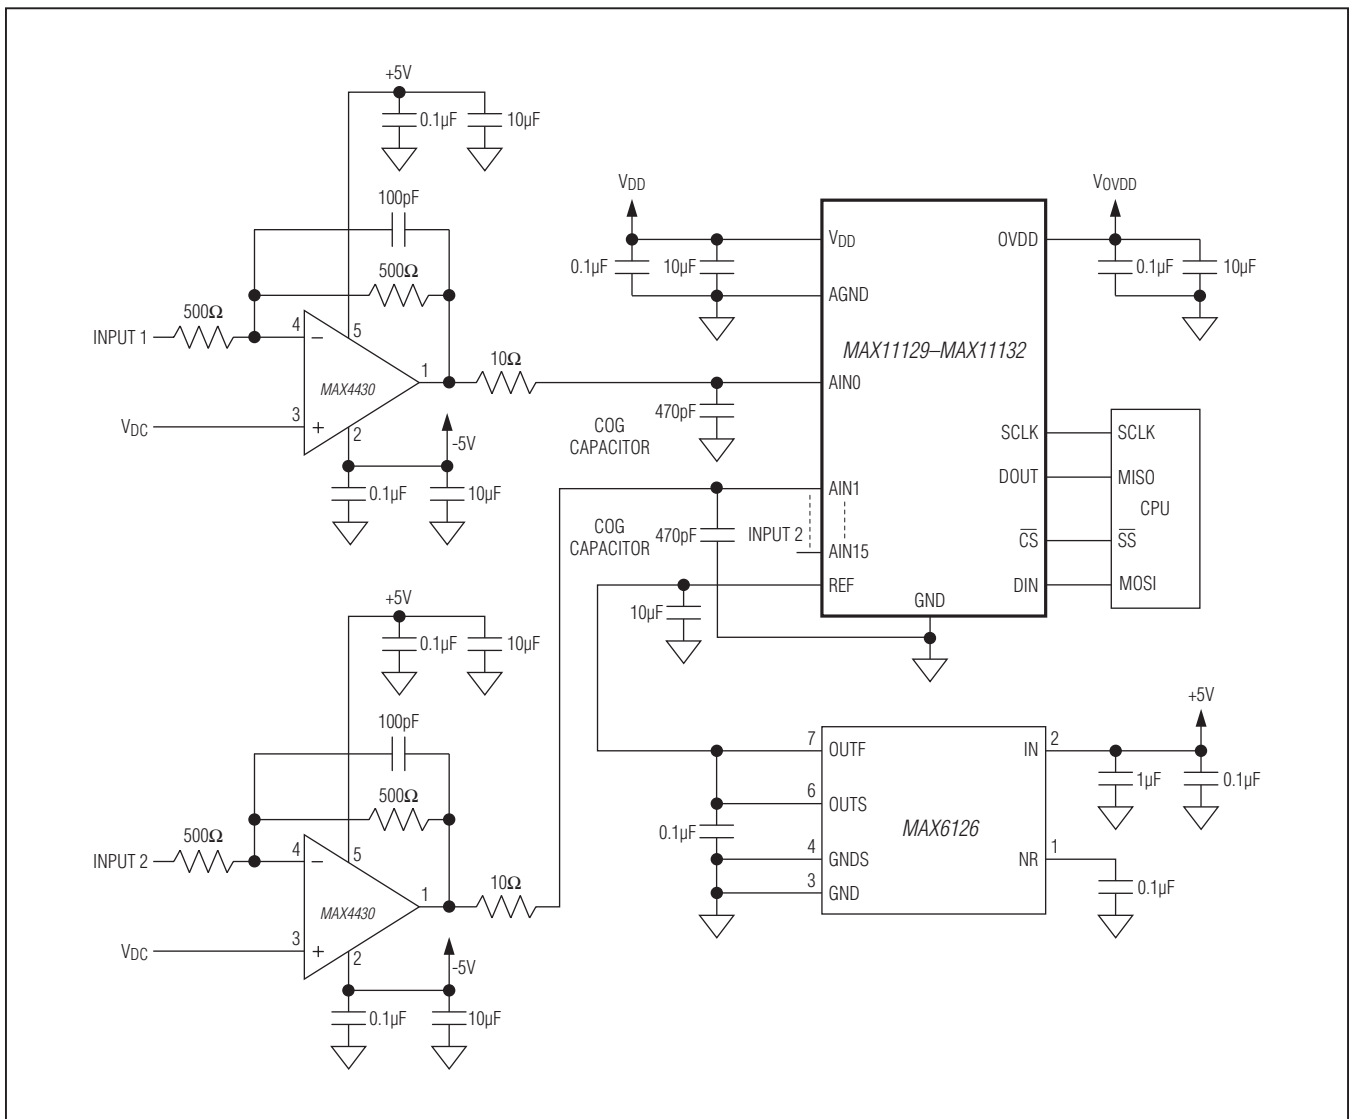

Figure 13. Typical Application Circuit
It is important to match the settling time of the input amplifier to the acquisition time of the ADC. The conversion results are accurate when the ADC samples the input signal for an interval longer than the input signal's worst-case settling time. By definition, settling time is the interval between the application of an input voltage step and the point at which the output signal reaches and stays within a given error band centered on the resulting steady-state amplifier output level. The ADC input sampling capacitor charges during the sampling cycle, referred to as the acquisition period. During this acquisition period, the settling time is affected by the input resistance and the input sampling capacitance. This error can be estimated by looking at the settling of an RC time constant using the input capacitance and the source impedance over the acquisition time period. Figure 13 shows a typical application circuit. The MAX4430, offering a settling time of 37ns at 16-bit resolution, is an excellent choice for this application. See the THD vs. Input Resistance graph in the *Typical Operating Characteristics*.
- Noise. The MAX6033 and MAX6043 are also excellent reference choices (Figure 13).